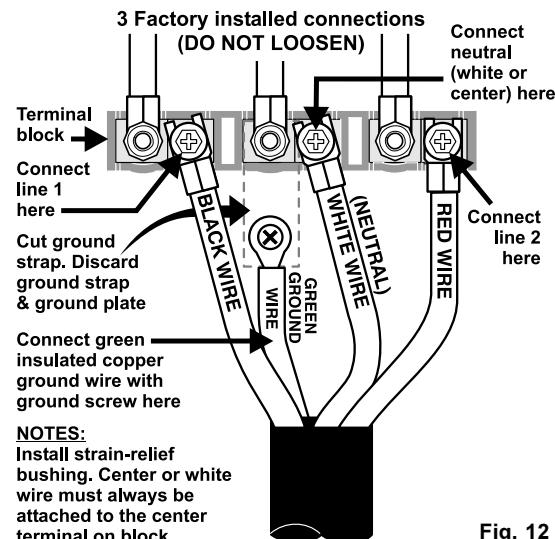

Fig. 12
### (4-Wire Connection Instructions - Refer to Fig. 12)
- Connect the ground wire (Green) lead with the eyelet to the frame of the appliance with the ground screw using the same hole in the frame where the ground screw was originally installed (See Fig. 12).